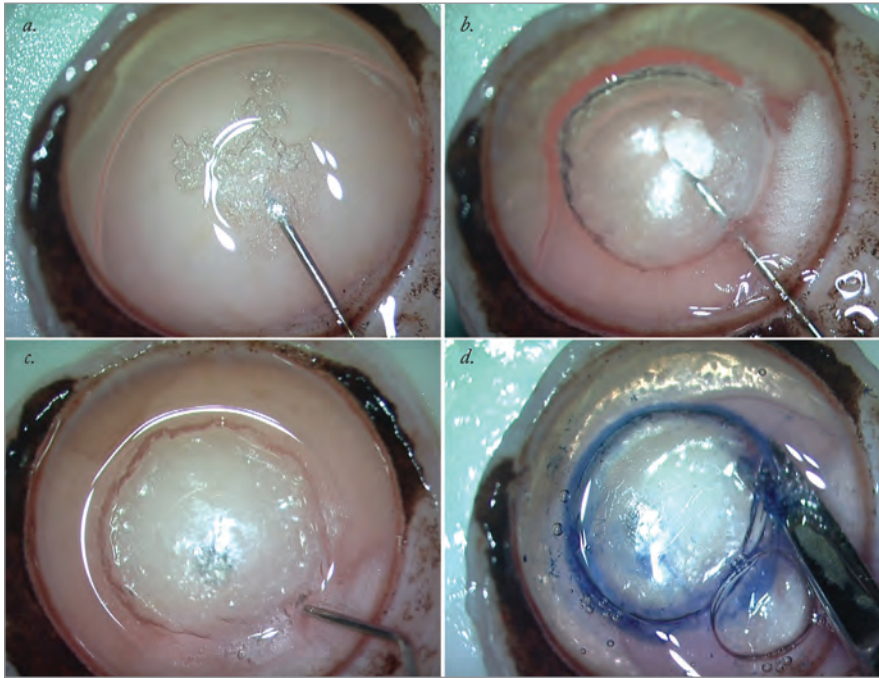

Figure 1. Graphical display of creation of Type-1 bubble (bb).
endothelium complex from the residual donor stroma by the formation of a Type 1 big bubble (bb; 3,4) – see Figure 1. The presence of the PDL makes the injection and bubble creation essentially as easy to perform as regular DMEK and should help avoid accidentally creating a Type 2 bb (5). PDEK has a number of advantages over previous EK methods: not only does it permit the use of younger tissue (dramatically increasing the potential donor pool), it also yields tissue that typically has a far greater endothelial cell density than typical DMEK grafts. The result should be a faster resolution of post-procedural corneal edema and improved graft longevity relative to DMEK-prepared grafts (4,5). So how is it performed?
The most important part of the PDEK procedure is preparation of the donor graft – and it's essential to get it exactly right. The formation of Type 1 bb is essential for success (Figure 1) and separates the PDL from the DM-